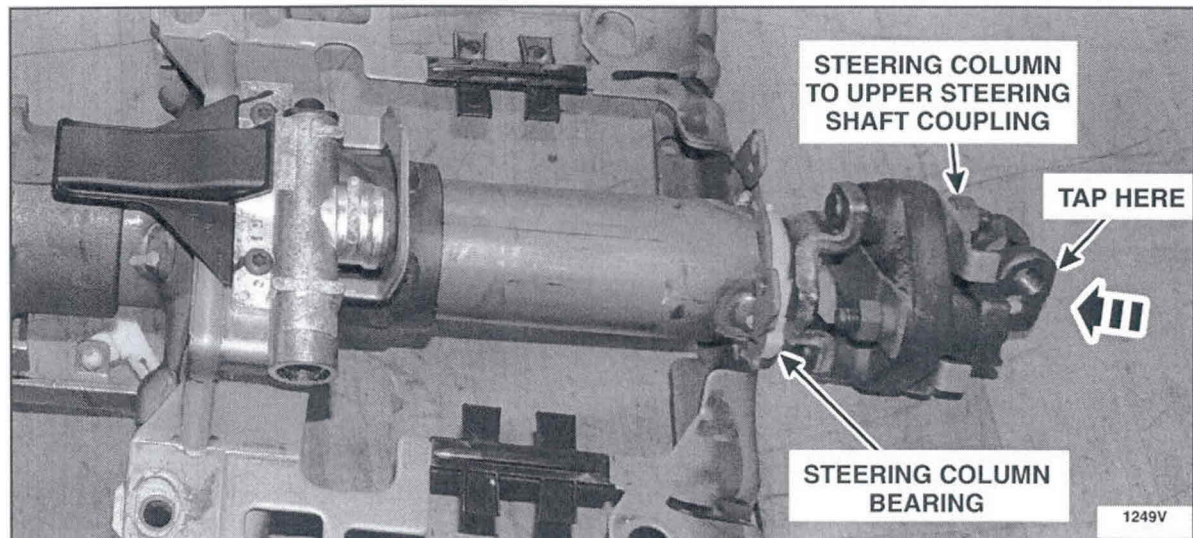

FIGURE 9
3. Use a suitable dead blow hammer to lightly tap the steering column to upper steering shaft coupling to seat the steering column bearing. See Figure 9.